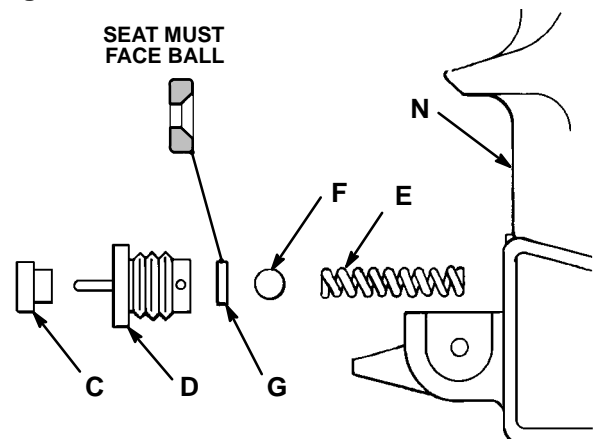

Fig 9
11. Grease the seat (G) and place it on the fluid housing so the seat which is formed on the inside diameter faces out. See Fig 9.